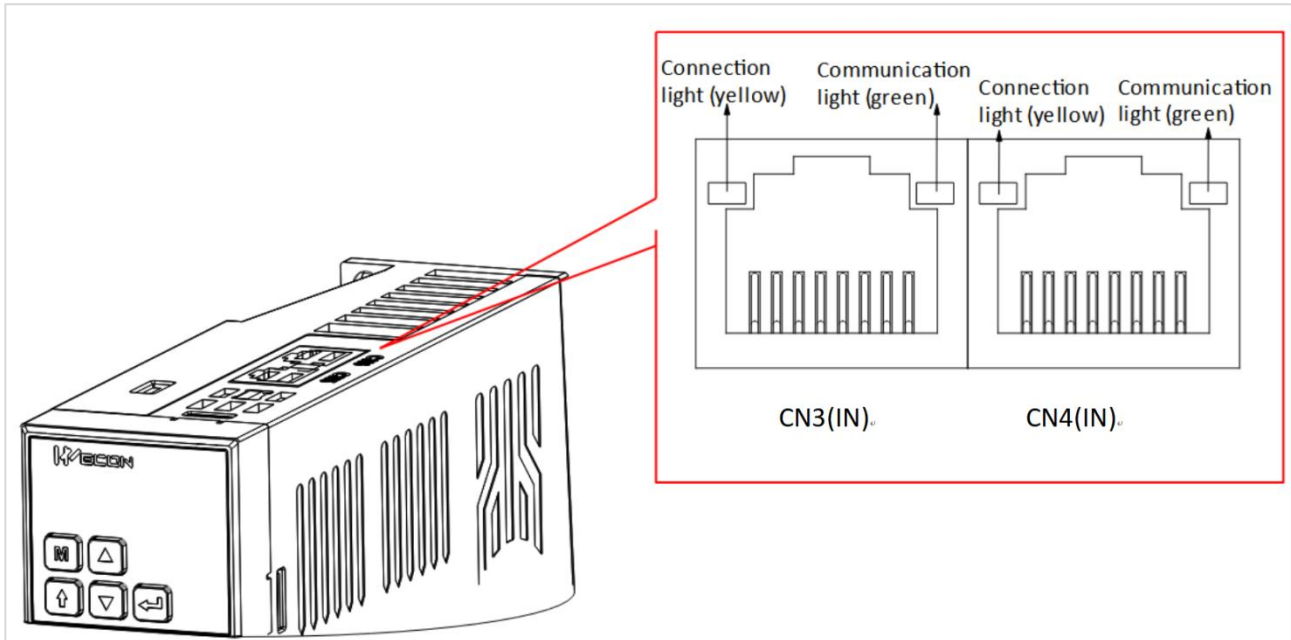

Figure 6-4 Communication indicator position
The communication indicator for the VD5 servo drive is located on the CN3 (IN), CN4 (OUT) sockets, as shown the Figure 6-4.